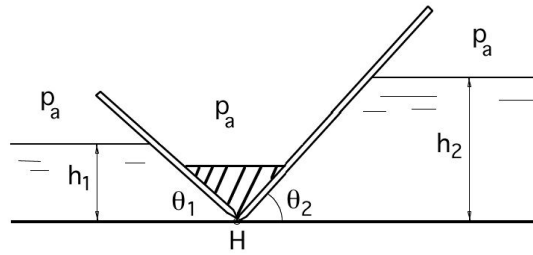

Figure P2.51
2.51 A weightless gate of width w separates two reservoirs of water of depths h_1 and h_2 , as shown in Figure P2.51. The two sides of the gate are inclined to the horizontal at angles θ_1 and θ_2 . The gate is pivoted without friction at the hinge H. Find the ratio h_2/h_1 when the gate is in static equilibrium in terms of θ_1 and θ_2 . Show your coordinate system, and all your work.